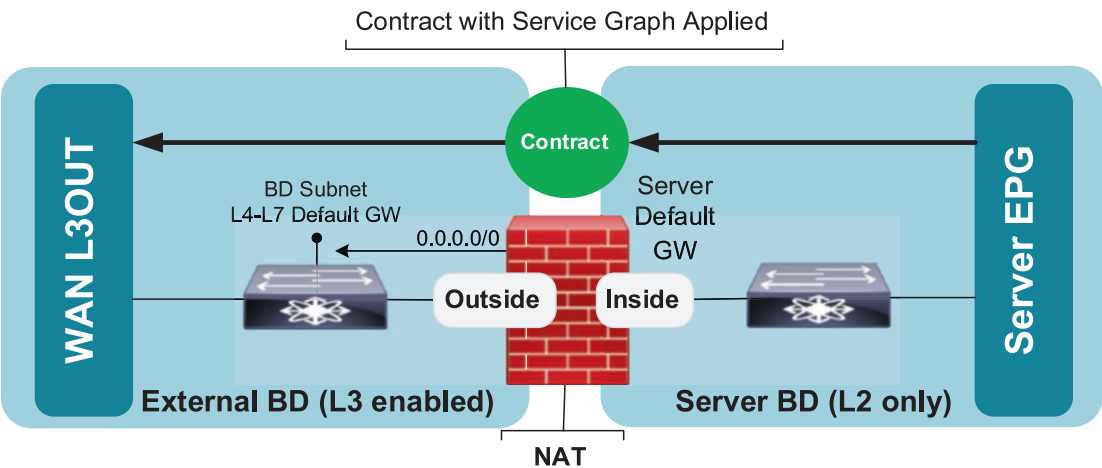

Figure 8-5. Routed L4-L7 node with WAN L3OUT
- b. **Routed Mode using NAT and external WAN L3OUT:** A design suitable for FW or LB performing NAT translation between client and server IP addresses. Outbound connectivity for the L4-L7 device is implemented by a static default route pointing to the external BD’s subnet IP, and external routing from ACI is handled using WAN L3OUT (see Figure 8-5). The NAT pool of the L4-L7 device should be advertised by L3OUT to the external network. A contract with a service graph is then applied between the server EPGs and the WAN L3OUT ExtEPG.